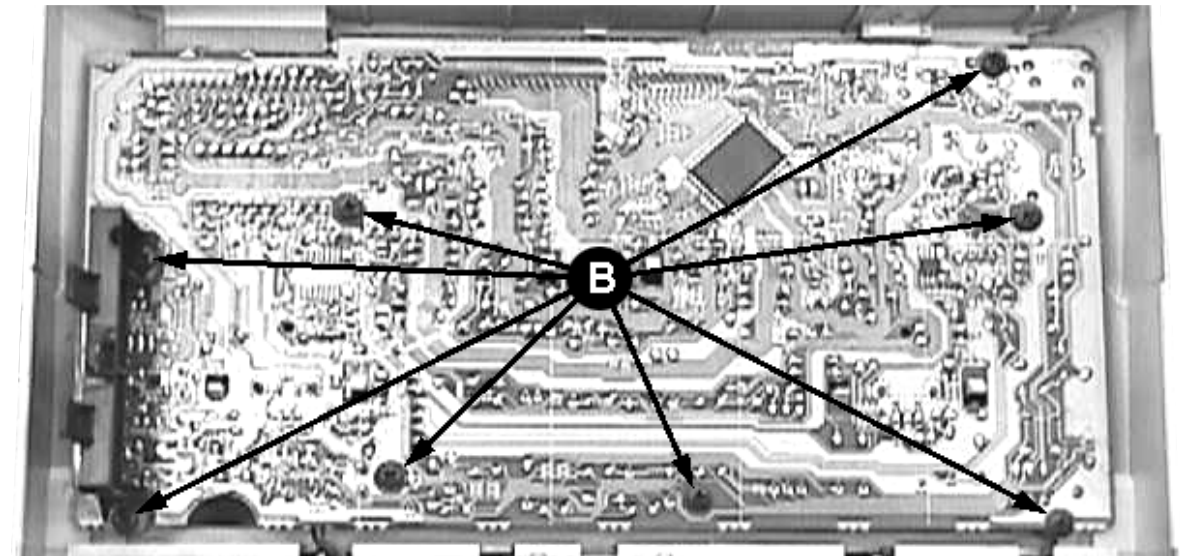

Figure 5
- 1) Loosen 2 screws below the Front Panel (pos 101) mounting it to the Bottom plate (pos 227).
- 3) Remove the Volume and Jog Rotary knob if the Front board needs to be dismantled. For Karaoke versions, the Karaoke knob (pos 133) also need to be removed.
- 4) Loosen 8 screws B to remove the Front board as shown in Figure 5.